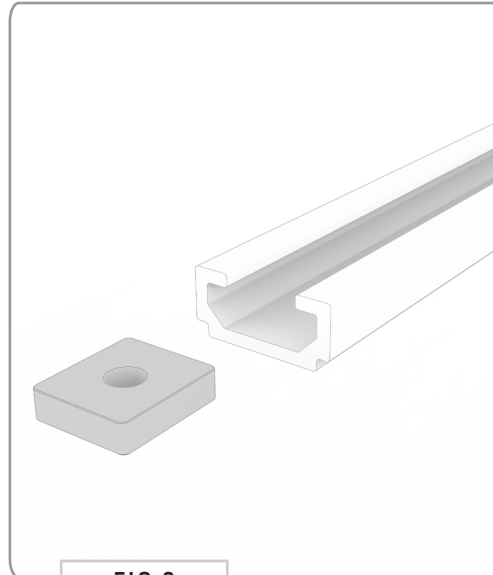

FIG 8
3.1 Roof Rail Nuts: Slide in **Rail Nuts** to location of install along the Roof Rail (**FIG 8+9**). In this case, directly above the Rear Wheel Well.